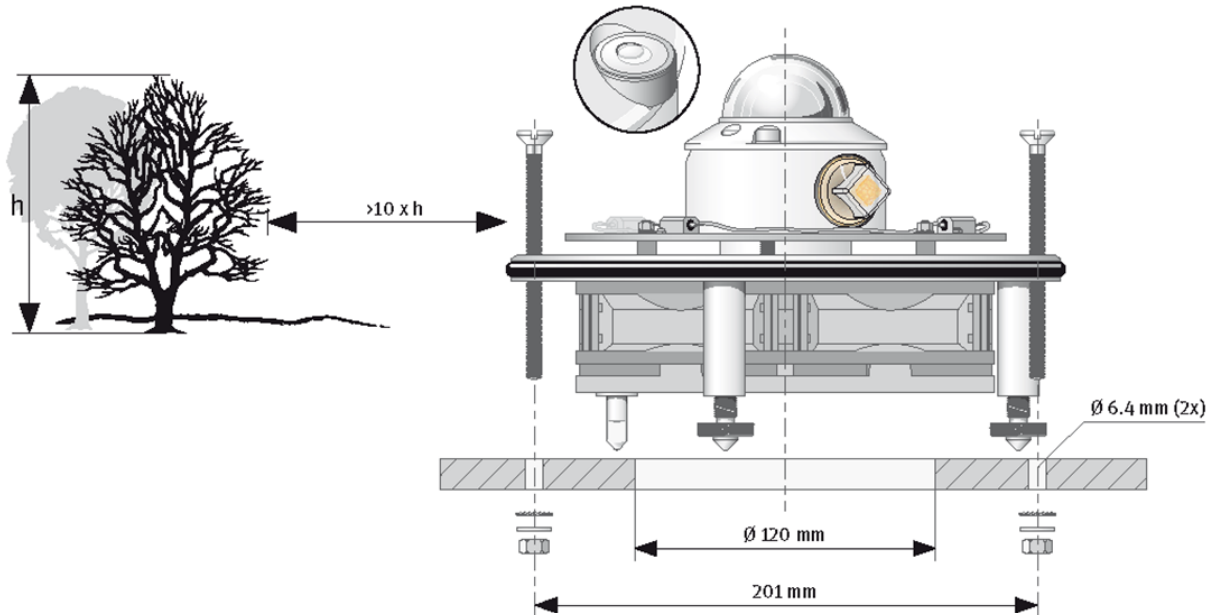

FIGURE A-3. CVF3 installed onsite
5. Turn the CVF3's leveling screws bringing the bubble of the pyranometer's level within the ring (see FIGURE A-3).